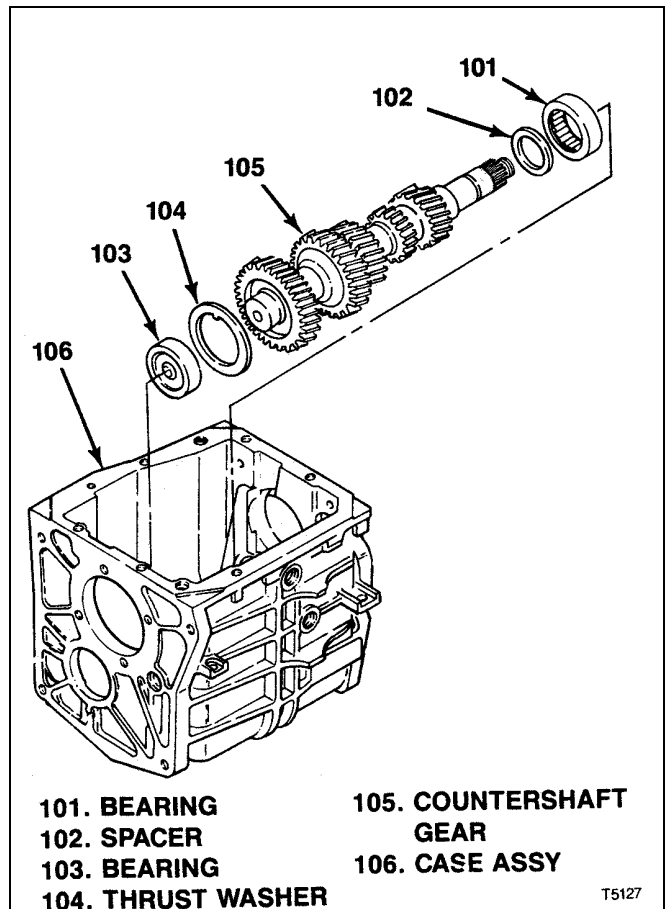
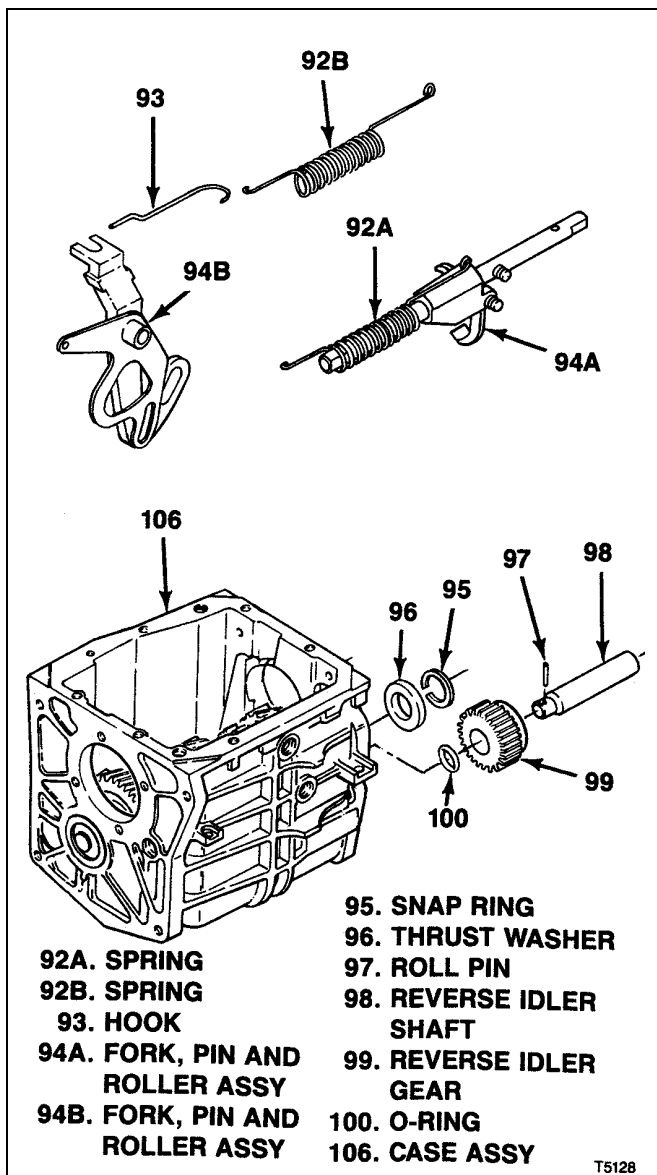
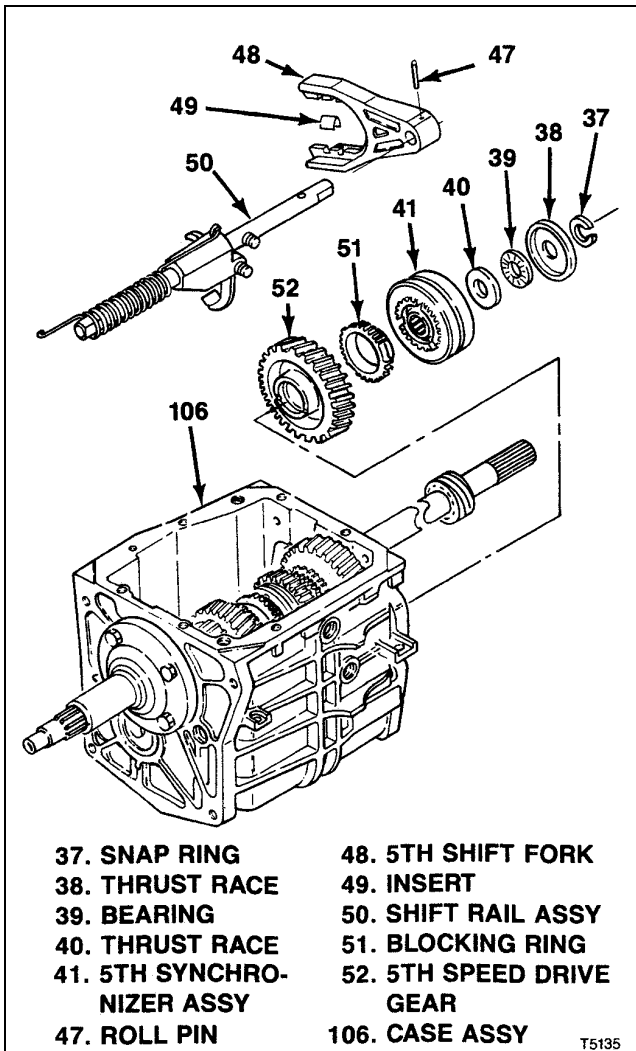

Figure 7-5. T5 STD Countershaft Gear
Figure 7-6. T5 STD Reverse Fork and Idler Gear
Figure 7-13. T5 STD 5th Gear, Shift Fork and Synchronizer
7-8. ASSEMBLY AND INSTALLATION OF T5 STD COUNTERSHAFT. (see figure 7-5):
7-9. INSTALLATION OF T5 STD REVERSE FORK AND IDLER GEAR. With assembly completed as described through paragraph 7-8, proceed as follows (see figure 7-6):
7-15. INSTALLATION OF T5 STD 5TH GEAR , SHIFT FORK AND SYNCHRONIZER. At rear of transmission case (106), install parts as follows (see figure 7-13):
- a. Install 5th speed drive gear (52) and blocking ring (51) on end of countershaft gear (105, figure 7-5).
- b. Attach 5th shift fork (48) to shift rail assembly (50) with roll pin (47). Install inserts (49) on 5th shift fork.
- c. Engage 5th shift fork (48) with previously assembled (paragraph 7-7) 5th synchronizer assembly (41) and install together in transmission noting the following:
1. Install 5th synchronizer assembly (41) over rear end of countershaft gear (105).
2. Guide shift rail assembly (50) through reverse fork, pin and roller assembly (95A or 94B, figure 7-6) and, when used, spring (92A, figure 7-6) previously installed.
On units with fork, pin and roller assembly (94B, figure 7-6), 5-R shift lever is permanently attached to the fork. In the following step, it is necessary to engage lever with roller on shift rail (50, figure 7-13) only.
- a. Work 5-R shift lever (36) into engagement with rollers on previously installed shift rail assembly (50, figure 7-13) and fork, pin and roller assembly (94A, figure 7-6).
- b. From outside transmission install pivot pin (34) through case and 5-R shift lever (36 or part of 94B, figure 7-6). Torque pin to 20 lb-ft (27Nm).
- c. Inside transmission, attach lever to pin with retaining ring (33).
- e. Using needle nose pliers, hook free end of previously installed spring (92A or 92B, figure 7-6) on pin in transmission case (106).